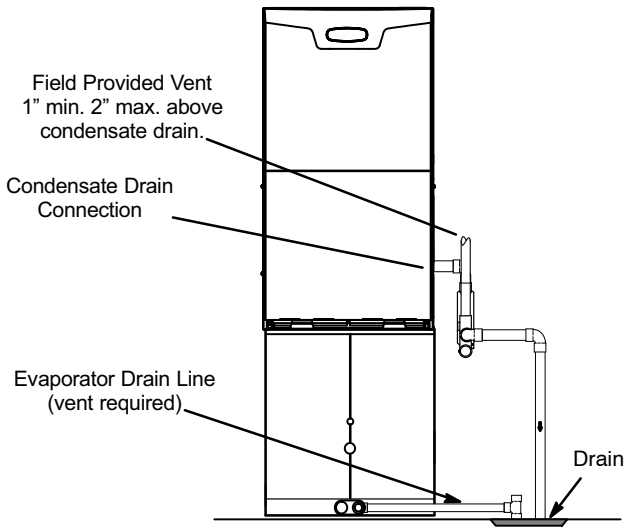

FIGURE 47
- 5 - Figure 47 shows the furnace and evaporator coil using a separate drain. If necessary, the condensate line from the furnace and evaporator coil can drain together. See figures 48 and 46. The field provided vent must be a minimum 1" to a maximum 2" length above the condensate drain outlet connection.